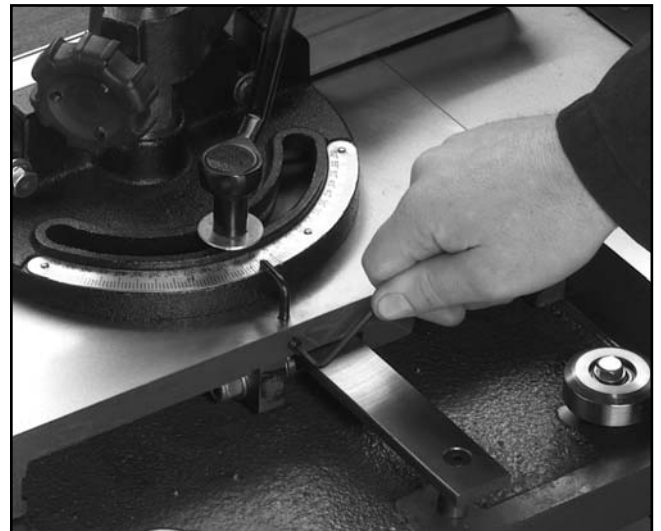

Figure 29. Setting the miter gauge pointer.
4. Set the miter gauge pointer to 0° and tighten the setscrew as shown in **Figure 29**.